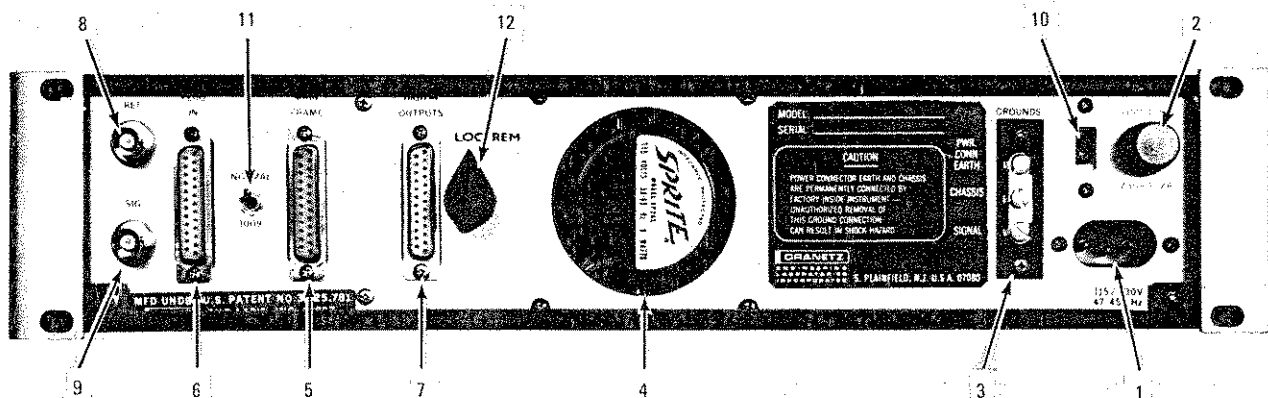

Figure 2-3. Model 305C Rear Panel Layout
- b. Connect the power cord supplied between the AC PWR receptacle (figure 2-3) and a 50 to 60 Hz power source having the nominal voltage specified on rear panel.
(See figure 2-3.)